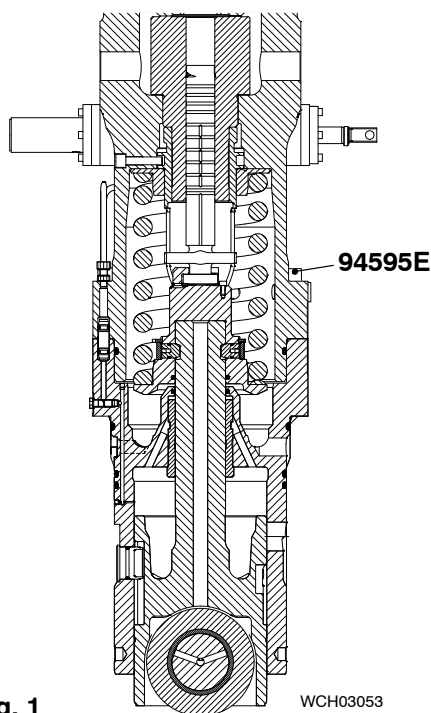

Fig. 1
- 2) Disassemble the fuel pump (5556-1 paragraph 3) until the condition is as shown in Fig. 1.